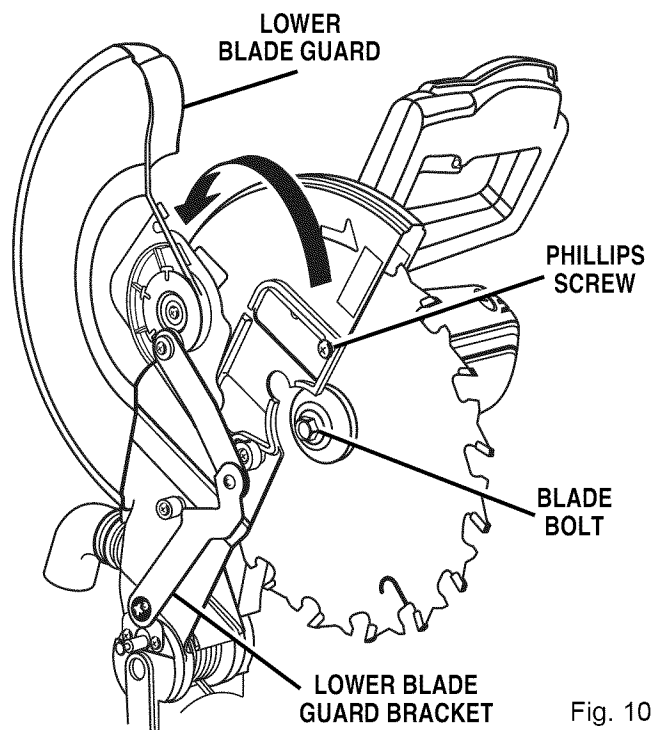

Fig. 10
See Figures 10, 11, and 12.
■ Loosen the phillips screw on the blade bolt cover until blade bolt cover can be raised. See Figure 10.
■ Gently raise the lower blade guard bracket so that the lower blade guard and blade bolt cover can be rotated up and back to expose the blade bolt. See Figure 10.